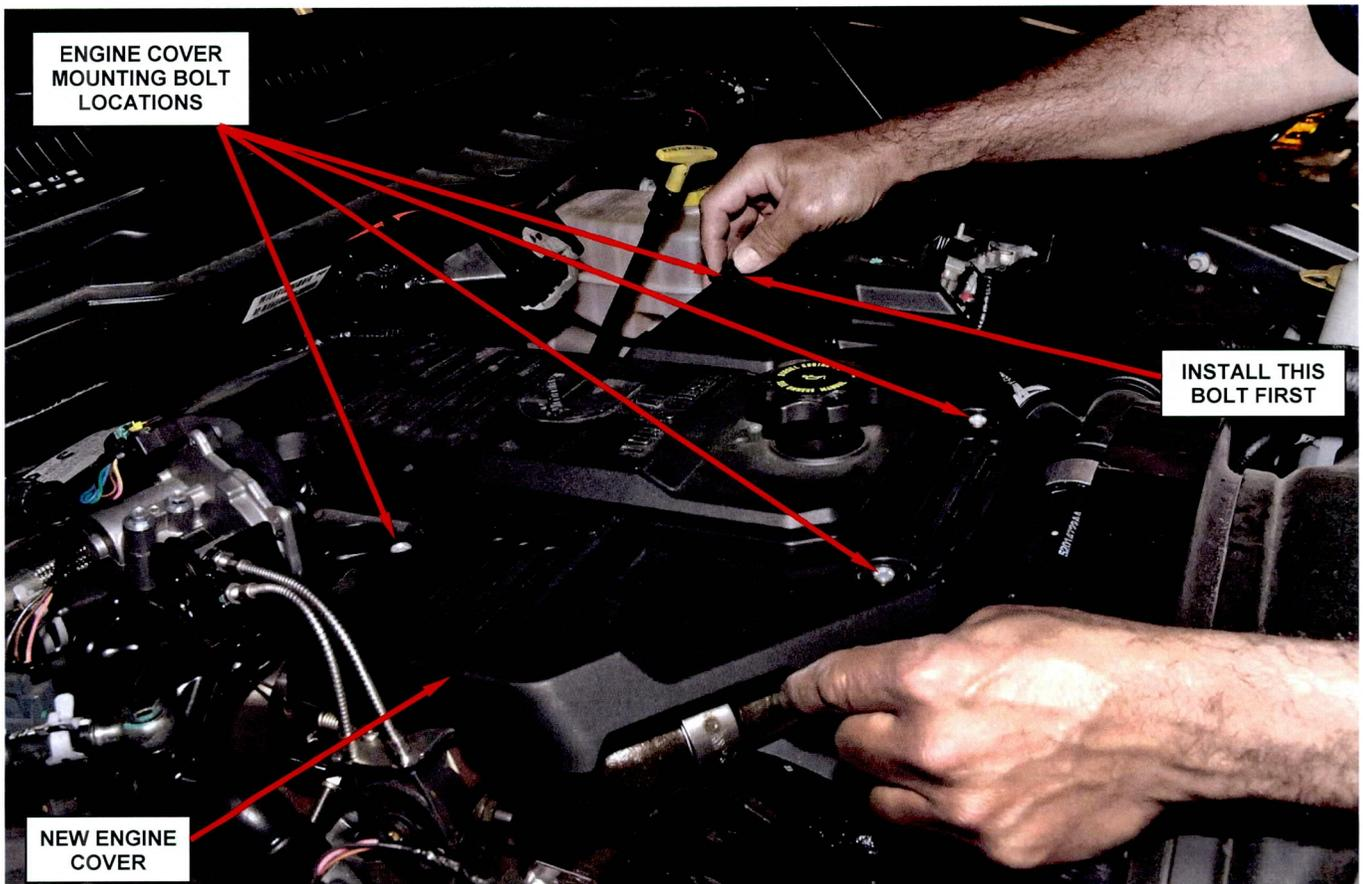

Figure 8 – Install New Engine Cover
18. Place the new engine cover into position (Figure 8). Tighten the four mounting bolts to 89 in. lbs. (10 N·m).